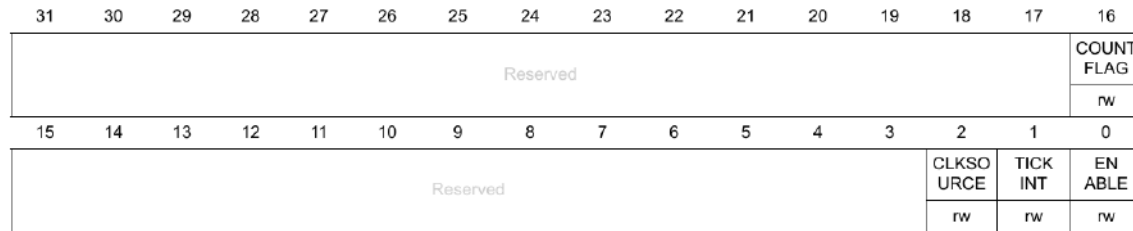

Figure 12.3.2.10.1: Control Register (CTRL)
**Solution:** Fig. 12.3.2.10.1 shows the SysTick CTRL register. 0x00010000 is used in the above command to mask all the bits except for bit 16, which is the COUNTFLAG. The **while** loop will stop once COUNTFLAG = 0. The while loop is used for the delay.
**Solution:** From Fig. 12.3.2.10.1, ENABLE = 1 enables the counter (for delay) and CLKSOURCE = 1 enables the 8 MHz internal RC clock.